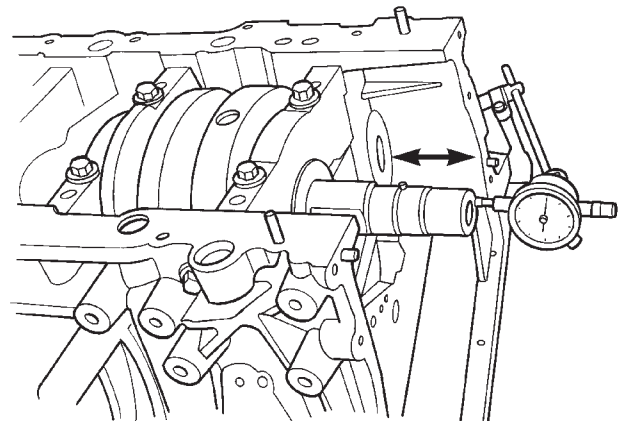

Fig. 91 Checking Crankshaft end Play—Typical
(1) Mount a dial indicator to a stationary point at front of engine. Locate the probe perpendicular against nose of crankshaft (Fig. 91).